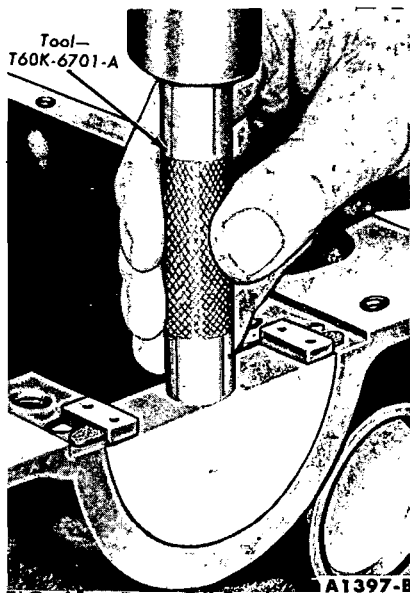

FIG. 61—Rear Oil Seal to Block Installation
4. Clean the rear journal oil seal grooves. Install a new rear journal oil seal in the block (Fig. 61) and rear main bearing cap (Fig. 41). After installation, cut the ends of the seals flush.
4. The crankshaft and related parts are shown in Fig. 59 or 60. Be sure that the rear journal oil seal grooves are clean. Install a new rear journal oil seal in the block (Fig. 61) and rear main bearing cap (Fig. 41). After installation, but the ends of the seals flush.